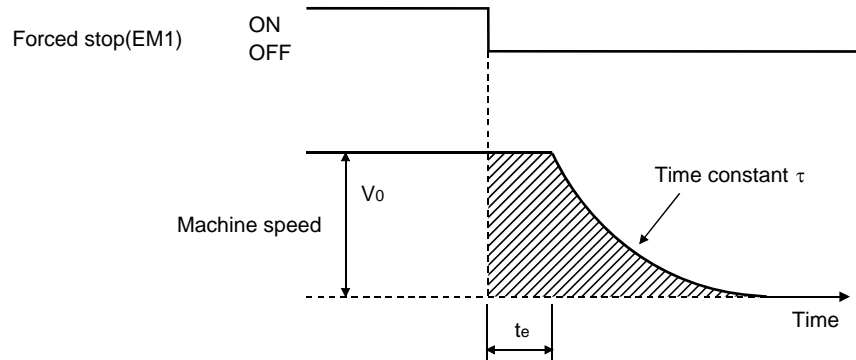

Fig. 10.3 Dynamic brake operation diagram
(1) Calculation of coasting distance
Fig. 10.3 shows the pattern in which the servo motor comes to a stop when the dynamic brake is operated. Use Equation 10.2 to calculate an approximate coasting distance to a stop. The dynamic brake time constant τ varies with the servo motor and machine operation speeds. (Refer to (2)(a), (b) of this section.)